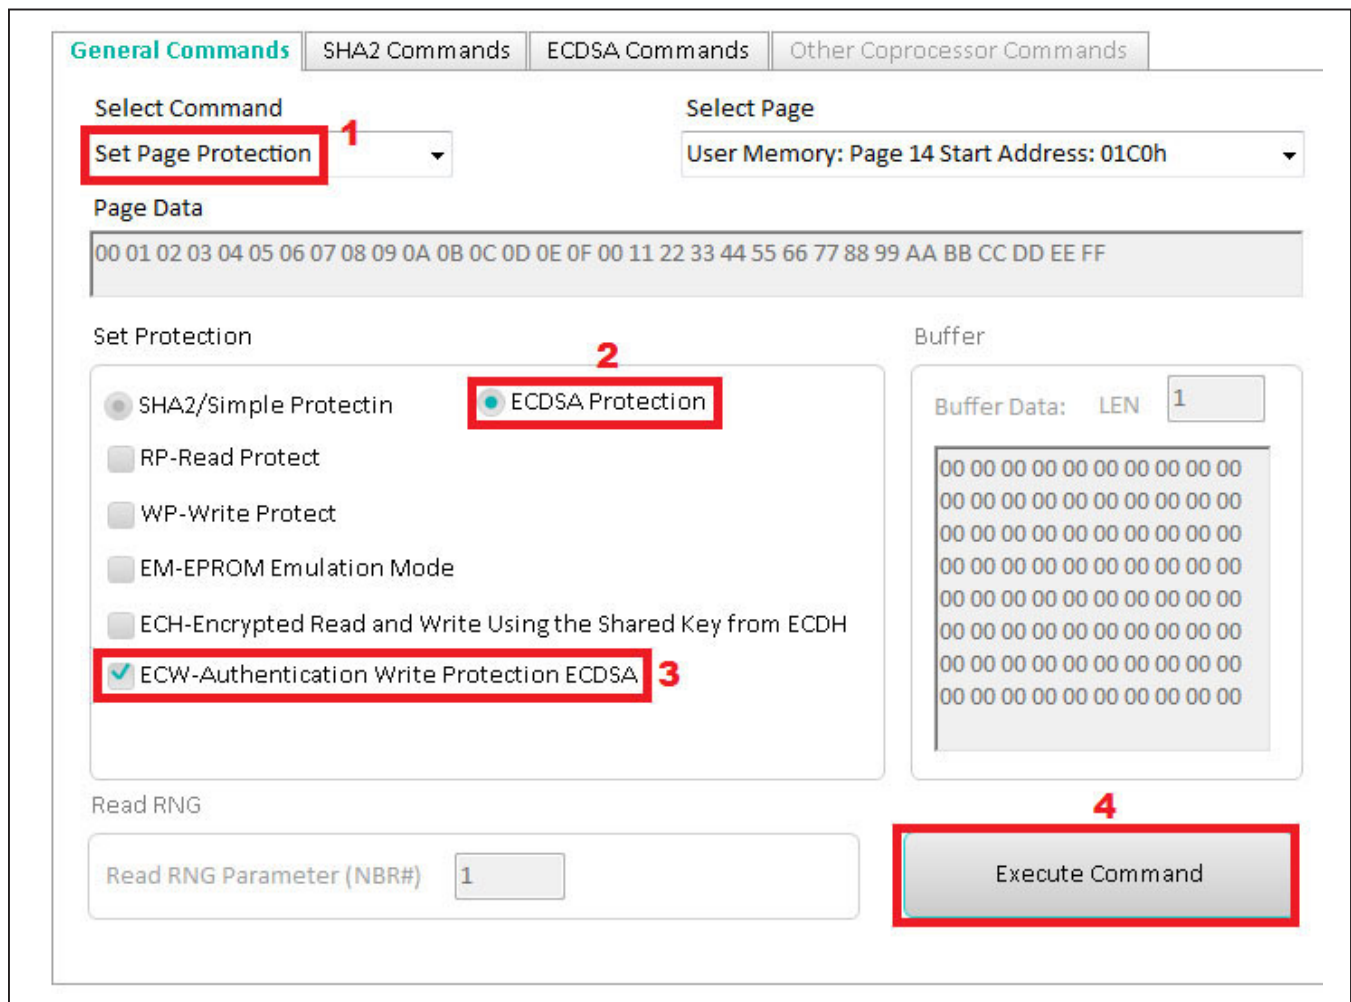

Figure 22. Set Page Protection Command to Page 14 with Feature Data
6) Perform **Set Page Protection** to set ECW on feature page 14 (Figure 22). From the **Select Command** drop-down list, select **Set Page Protection**. From the **Select Page** drop-down list, choose **User Memory: Page 14 Start Address: 01E0h**. In the **Set Protection** area, click on the **ECDSA Protection** radio button, and finally click on the **Execute Command** button. **Note:** A pop-up window appears with the following message: **The page protection is set to: ECW and it is irreversible. Do you want**